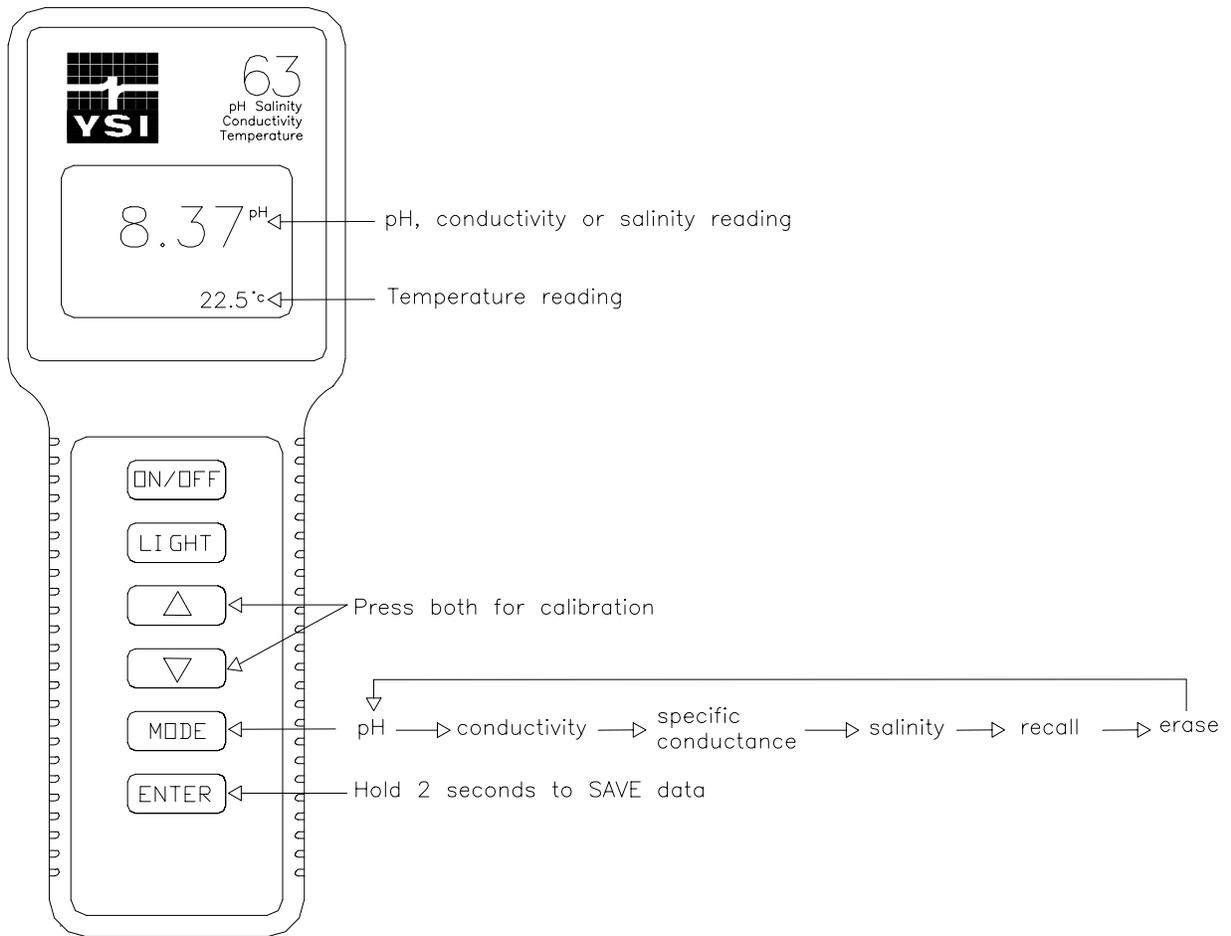

*Figure 3*
2. Insert the pH sensor into the probe body (be sure to align the tabs on the sensor with the slots in probe body) and twist 1/4 turn to lock in place. See *Figure 3*.